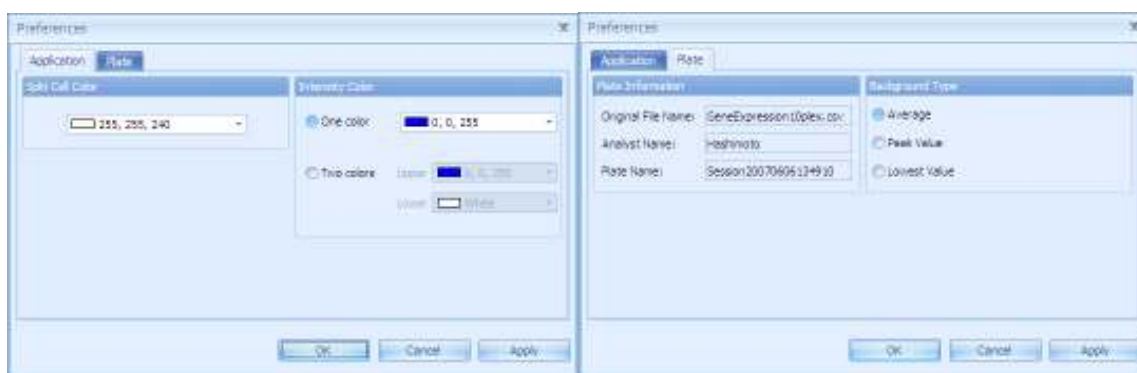

Figure 4.31 Preferences dialog box
- To open the Preferences dialog box (Figure 4.31), click the **Preferences** button  .